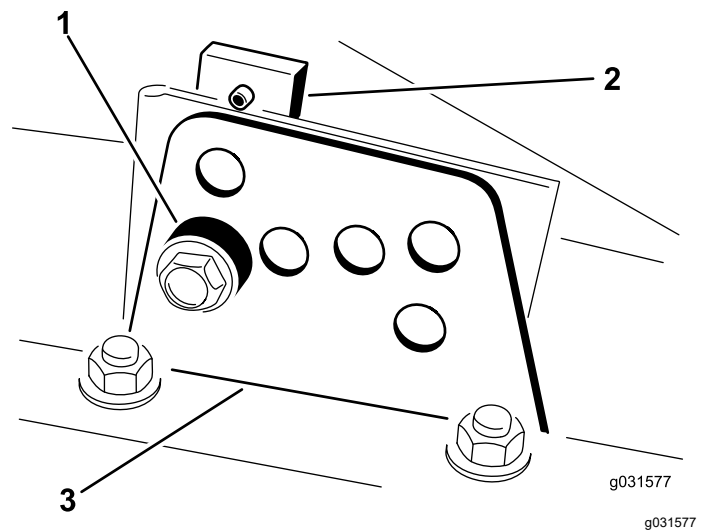

Figure 18
2. Loosen the bolt securing each height-of-cut bracket to the height-of-cut plate (front and each side) as shown in Figure 18.
4. While supporting the chamber, remove the spacer (Figure 18).